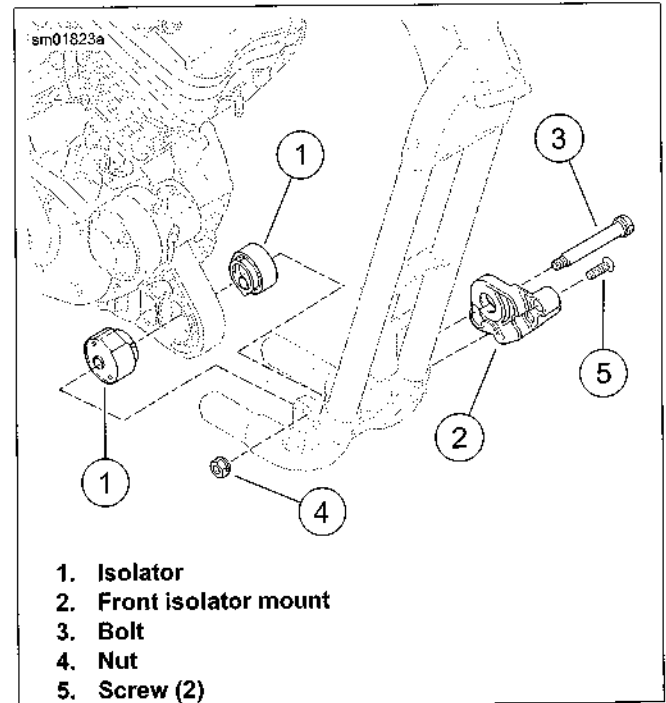

Figure 2-109. Front Engine Mount/Isolator
See Figure 2-109. Jack engine up or down to remove bolt (3).
9. Remove nut (4) and bolt (3) from front engine mount/isolator assembly.
10. Remove screws (5) from front isolator mount (2) on left side of motorcycle. Remove isolator mount and left front isolator (1).
13. Remove right front isolator (1) from crankcase.
1. See Figure 2-109. Install both front isolators (1) in engine mounting boss on front of crankcase. Each isolator has a half-moon tab and fits into engine mounting boss in only one way. Push engine to right until right isolator contacts frame boss.
2. Install front isolator mount (2) over left front isolator.
3. Install screws (5) through front isolator mount and thread into frame. Tighten to 25-35 ft-lbs (33.9-47.5 Nm).
4. Insert bolt (3) through front isolator/engine mount assembly from left side. Thread nut (4) onto bolt. Tighten to 95-105 ft-lbs (129-142 Nm).